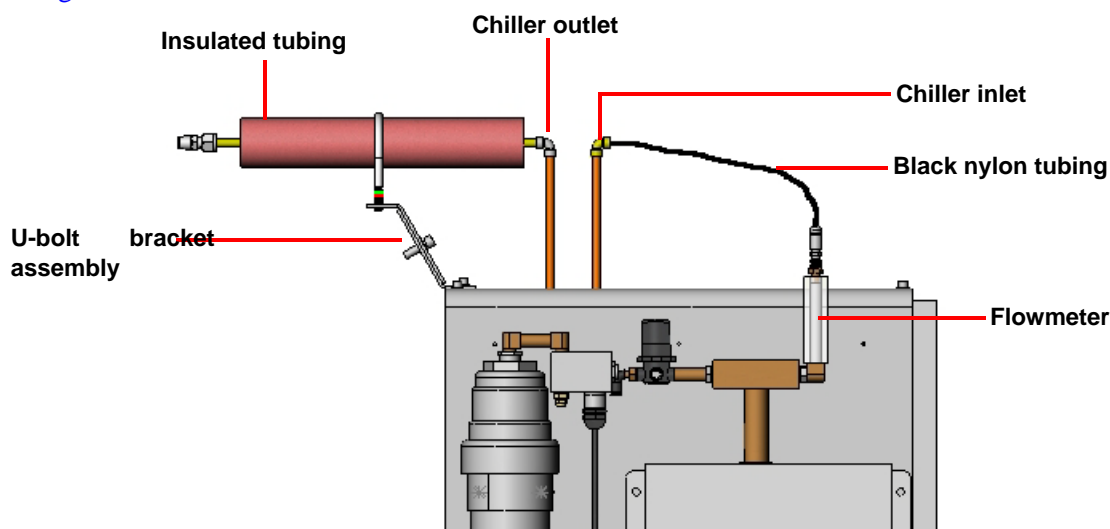

Figure 7 Chiller Panel assembly.
- 8 Obtain the black nylon tubing (PN 613.04185) and connect it to the top of the flowmeter. Connect the other end to the elbow on the Chiller inlet pipe. See Figure 7.
- 5 Connect the insulated copper tubing to the 3/8-inch brass elbow (PN 299793.023) on the Chiller outlet pipe. Place the U-bolt (PN 603.03036) over the insulated tubing and secure it to the bracket, as shown in Figure 7.